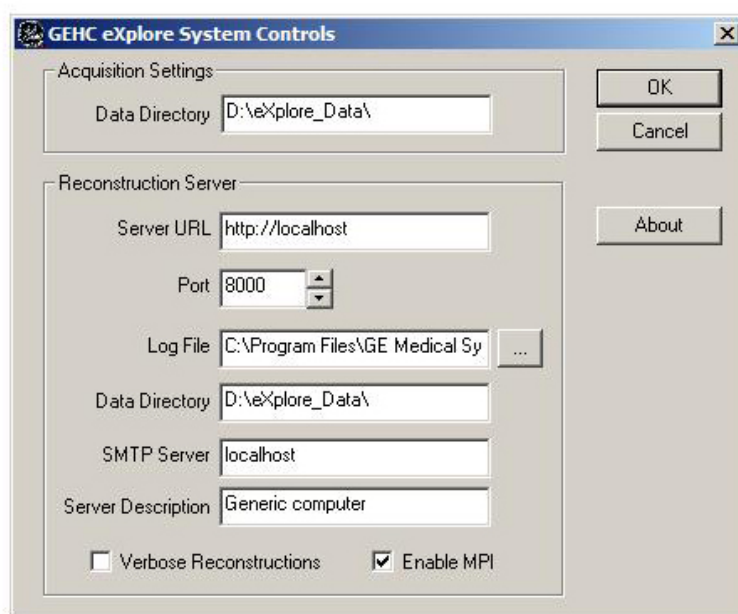

Figure 3: Data Directory
- 7.3.2. Make sure the **Data Directory** is “**D:\eXplore_Data**” and that the parameters are correct, according to the photo. Click **OK** (see Figure 3).